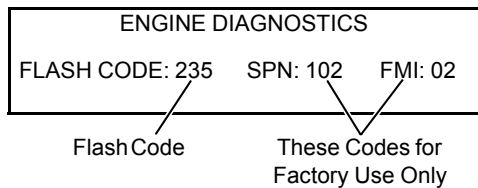

FIGURE 3-41
- Corresponding flash code for each active fault will appear next to FLASH CODE as shown in Figure 3-41.